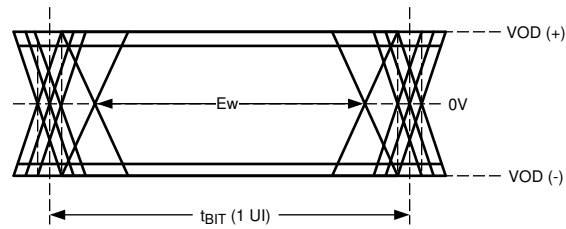

图 7-5. CMLOUT Output Driver
| E w Differential Output Eye Opening | R L = 100 Ω(图 7-5) | CMLOUTP, CMLOUTN | 0.35 |     |     | UI (1) |